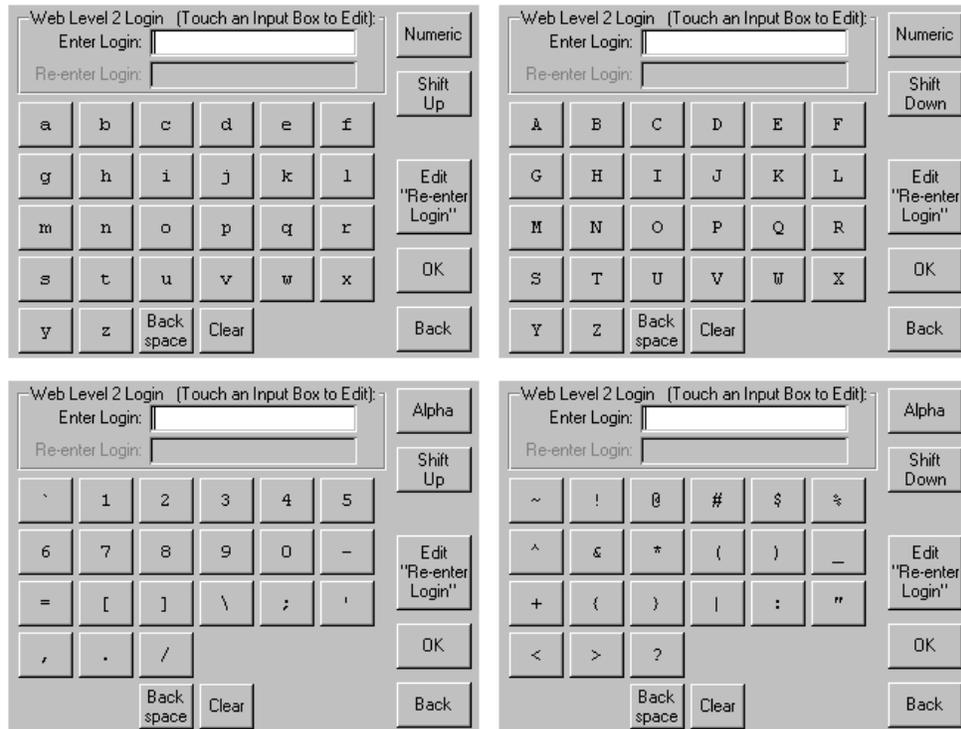

Figure 5-38: GUI Screens for Setting RMI Level 2 Passwords
4. At the Web Level 2 Login screen (Figure 5-38 on page 5-33), enter the **new password** in the Enter Login field.